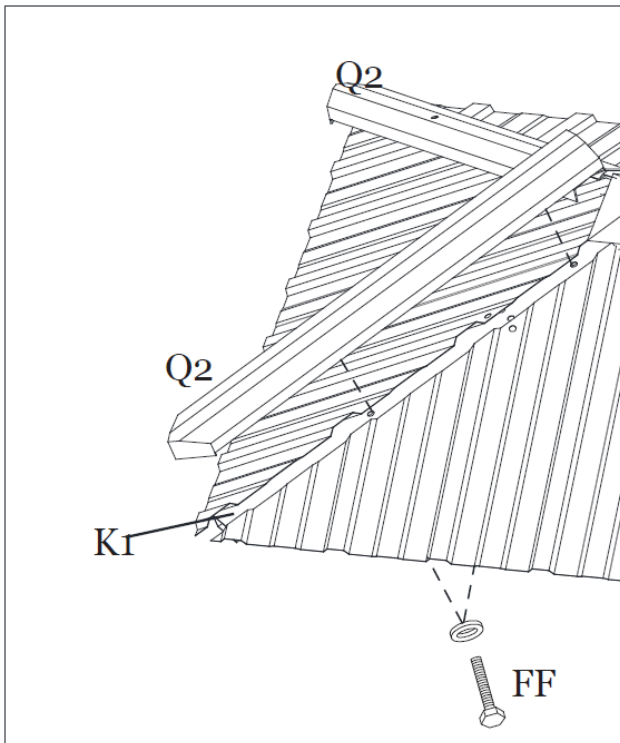

Figure 10-1
Step 10A: Attach the Roof Vent Corner Trim (Q2) to the Roof Vent Corner Support (K1) using Bolts (FF). See Figure 10-1.